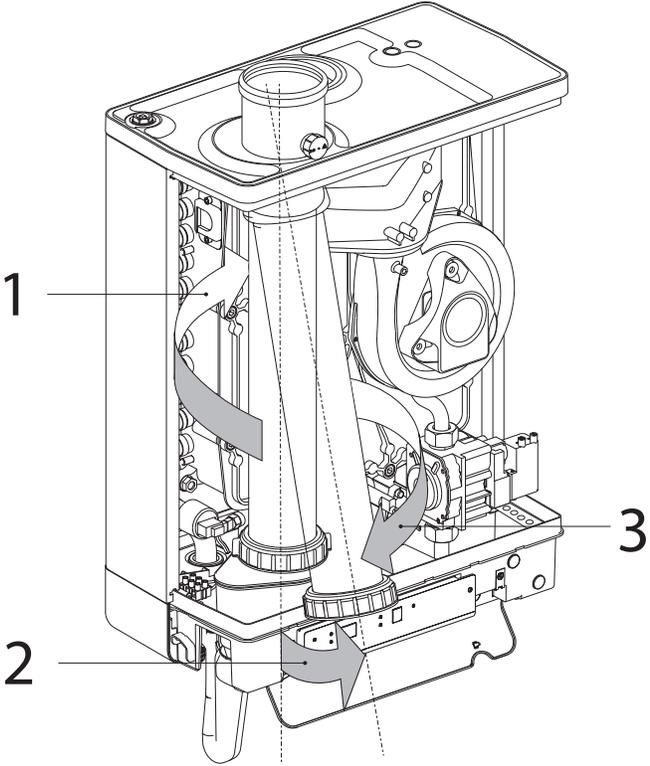

Fig. 24: Removal of Flue Pipe
2. Pull up on the flue pipe to disengage from the condensate pan as show in Fig. 24.
3. Pull the flue pipe down and out to disengage from the vent adapter as shown in Fig. 24, page 55.